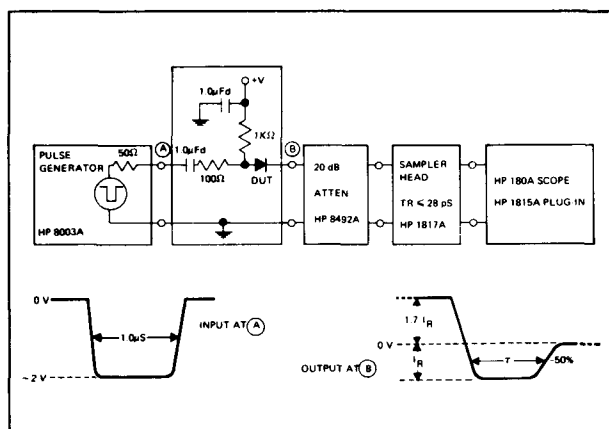

Figure 5. Minority Carrier Lifetime, τ , Test Set-Up
2. Measured in Circuit of Figure 5; $I_F = 10$ mA, $I_R = 6$ mA